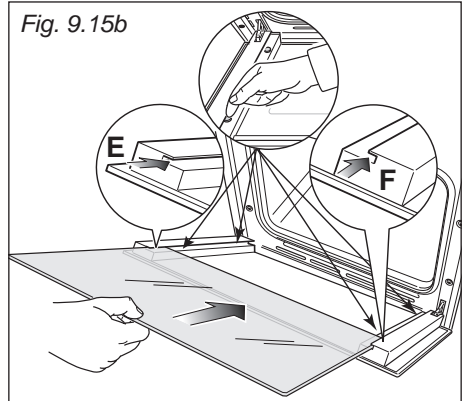
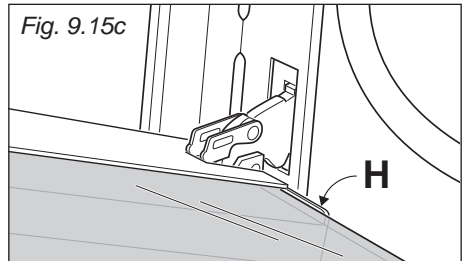

Fig. 9.15b
Fig. 9.15c
IMPORTANT: It is advisable, while refitting the glass, to keep pressed in position the four rubber pads "D", by a finger, to avoid breakage or slippage of the rubber pads themselves (fig. 9.15b).
- Insert the pane in the left "E" and right "F" slide guides (fig. 9.15b), and gently slide it to the retainers "H" (fig. 9.15c).